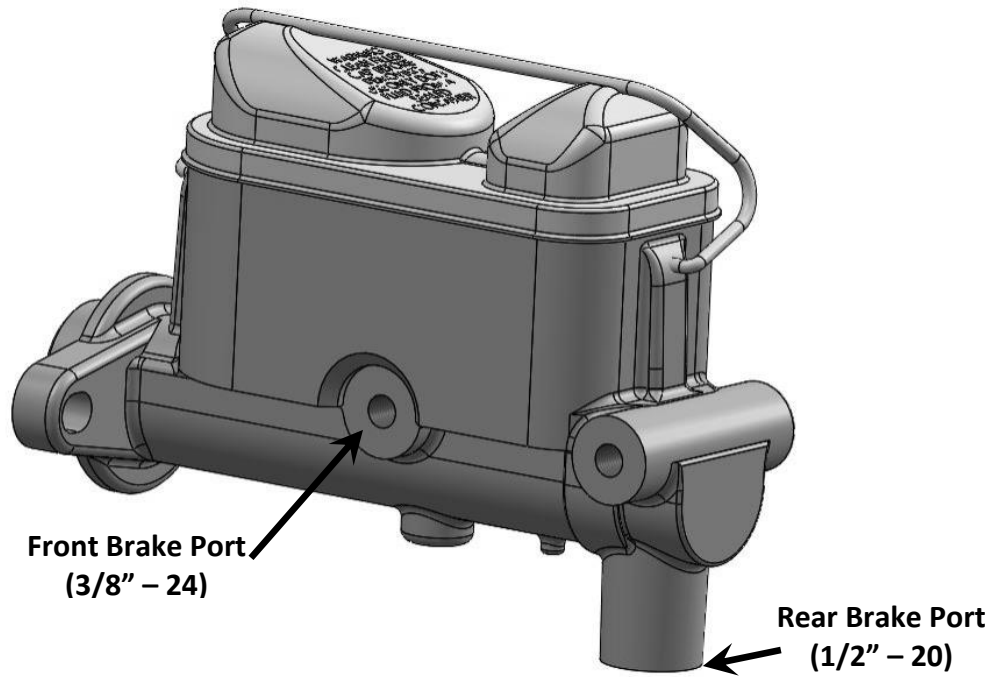

Figure 2 – Master Cylinder Port Location
- With the entire booster/master combo installed, the master cylinder can be plumbed into the vehicle. Figure 2 on the next page shows proper front and rear hookups for the brake lines.